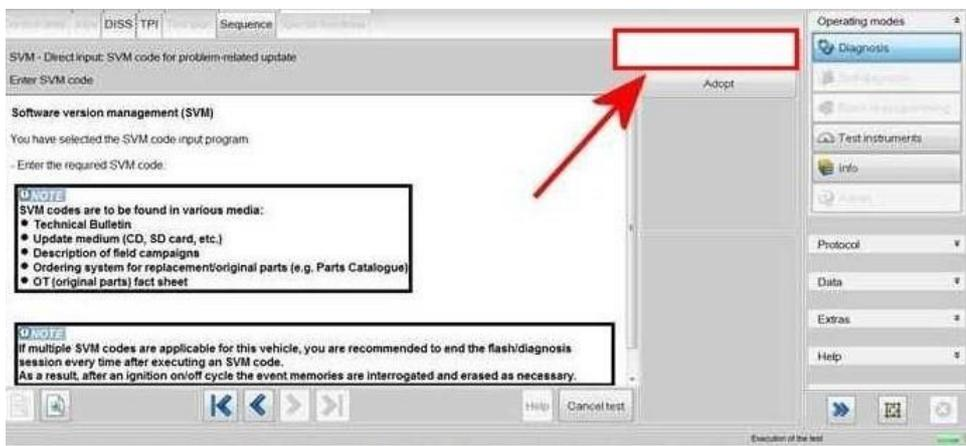

Figure 2
4) Referring to Figure 2 - Enter SVM code 370FTM01